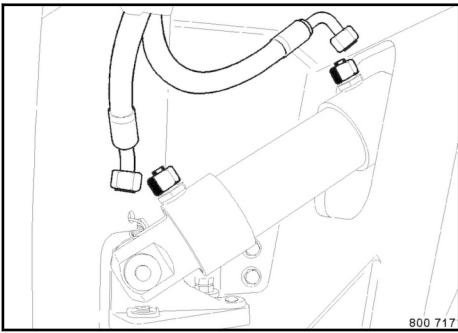

Fig. 129
6. Disconnect the hydraulic hoses ↗ Fig. 129 from ports L and R on the steering cylinder and close them with plugs.